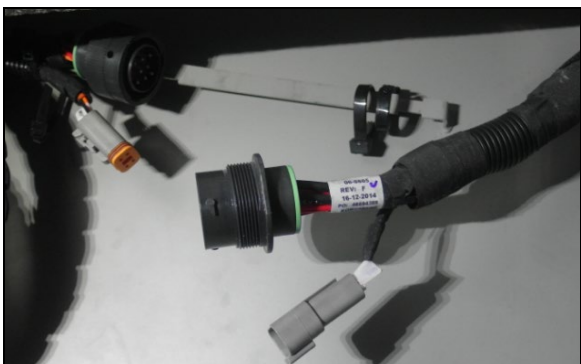

Fig.33
29. Reconnect the harness in the condenser compartment (Fig.33).